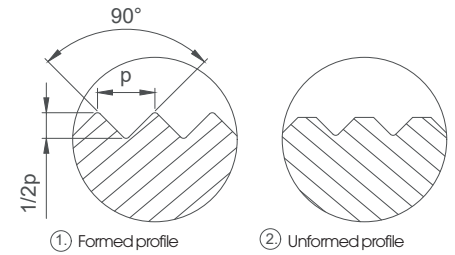

Fig. 4: Different profile pattern
The profile is completely knurled when the tooth tips are closed (Fig. 4, ref. 1).
If the profile is not completely knurled (Fig. 4, ref. 2), reduce the working area and run over the component again. Running into the workpiece again is possible, because the knurling wheels catch in the existing profile.